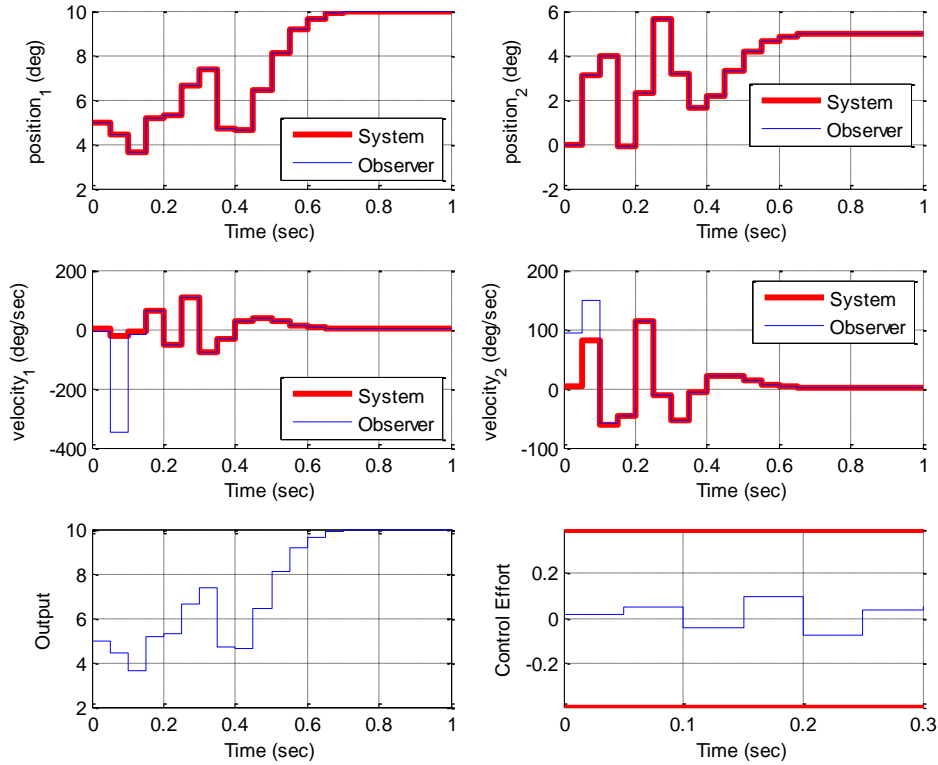

Figure 12. Results for problem 4d.
d) Same conditions as **b**, but now the positions of both disk 1 and disk 2 are known (the output is the position of the first disk). Place the state feedback poles all at 0.2 and the observer poles at [0.01 0.015 0.02 ]. For a 10 degree step input you should get the graph shown in Figure 12. Turn in your plot.